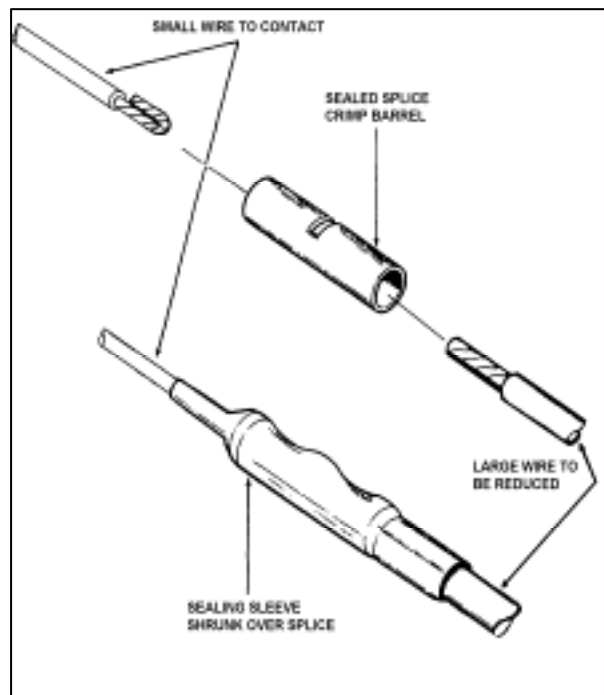

Figure 10-30 Reducing Wire Size at Connector Using Permanent Environmental Splice
- b. If both wires cannot fit into solder cup, use permanent splice to join both wires to a third wire that can fit into solder cup or crimp barrel. See Section 2, Chapter 6 for splicing procedure and Figure 10-30 and Figure 10-32 for illustration of this connection.
- b. Select a 15cm length of wire that will fit the wire barrel of the contact. Strip one end sufficiently long to be able to double the stripped portion back on itself as shown in Figure 10-30.